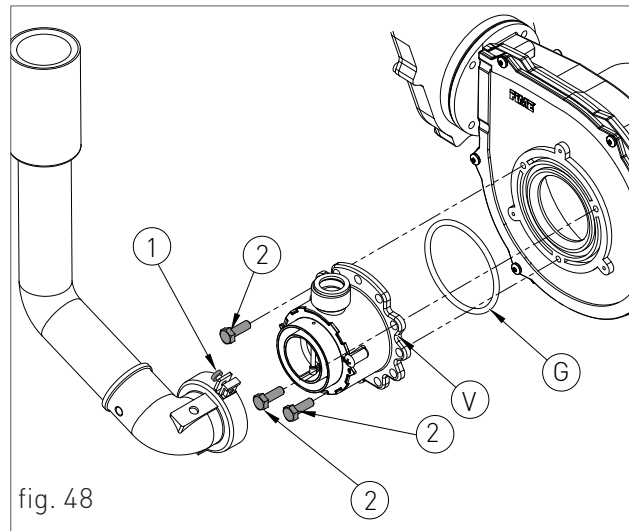
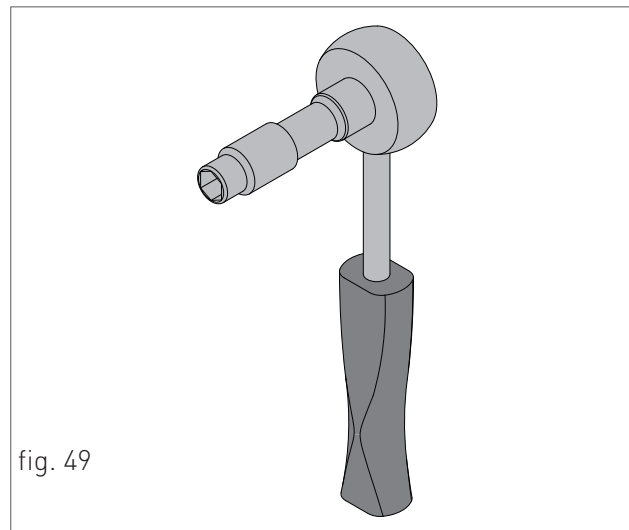

fig. 48
fig. 49
- › loosen the two screws '1' (fig. 48) from the fastening bush, and remove the air suction tube;
- › unscrew the three fastening screws '2' (fig. 48) of the venturi 'V' (fig. 48) using a 10 key, as shown in figure 49;
- › remount the components following the demounting operations in reverse making sure that gasket 'G' is re-assembled as shown in fig. 48;